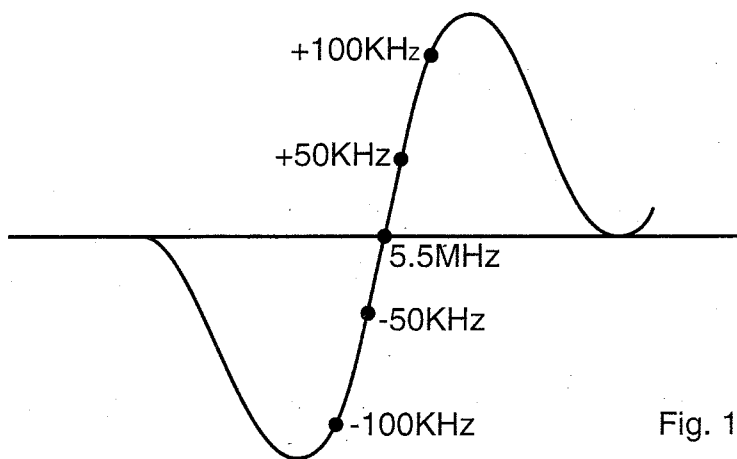

Fig. 12 SIF Response Curve
5. Adjust T104 for the marker (5.5MHz) of SIF waveform at the centre position Fig. 12.